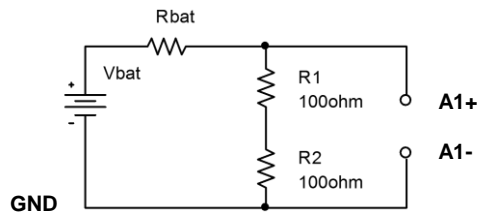

Figure B-5.
- Now add a load to the battery, as in **Figure B-5**. The load is two 100Ω resistors in series. We will discuss why two resistors are used a little later. Set up the circuit so that you can add and remove the load quickly, leaving it disconnected unless you are making a measurement. This just means wire it so that it is easy to pull out and reinstall one end of one resistor. You should only connect the load to the battery for a short moment (a second or two) long enough to make the measurement. If you leave the resistors connected, your battery will drain down quickly and will definitely not last a full semester. Record the voltage displayed in the Voltmeter window of the Analog Discovery with the resistive load disconnected. Then connect the resistors, quickly record the new voltage, and quickly disconnect the load. You may want to repeat this a few times to find the typical change of voltage with and without the load. Remember to record the unloaded battery voltage as well as the change in voltage. In the figure, A1+ is 1+ and A1- is 1-. The A reminds us this is an analog measurement.